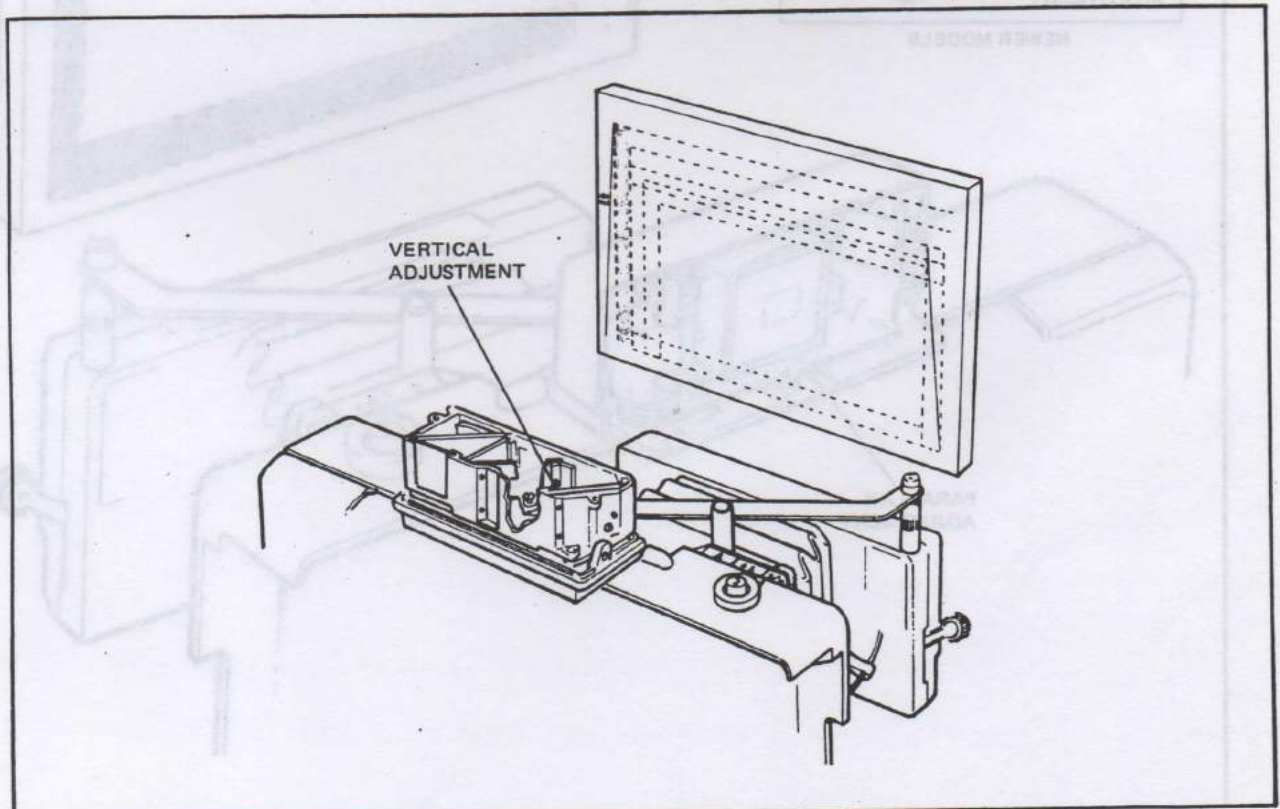

FIG. 5.50 PARALLAX VERTICAL ADJUSTMENT FOR ZEISS IKON RF/VF
- c. Set the focus bar to INFINITY and observe the frame target. Using a jeweler's screwdriver, turn the vertical adjusting screw until the left side vertical line of the yellow projected frame image is within the area bounded by the 180 tilt target lines (Figure 5-50). When the adjustment is complete, seal the adjusting screw with shellac. Don't let the shellac drip into the cantilever assembly.